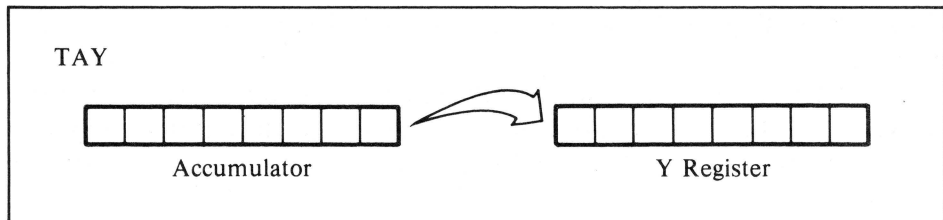

Figure 8-7. Transfer from accumulator to Y register
- TAY — Transfers the contents of the accumulator to the Y register (see Figure 8-7).